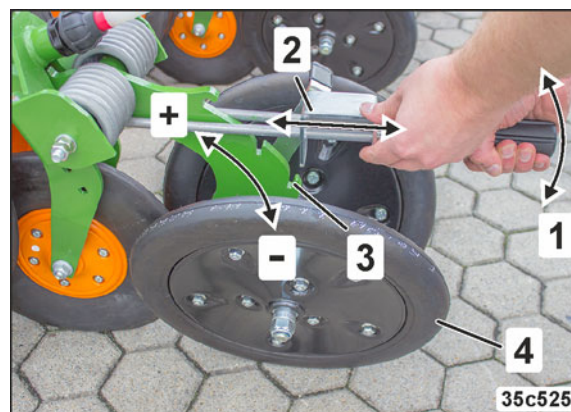

Fig. 179
The adjustable press rollers (Fig. 179/4) close the seed furrow and push soil over the seed.
1. Lift up the lever (Fig. 179/1) briefly and locate the tab (Fig. 179/2) in the toothed segment (Fig. 179/3).